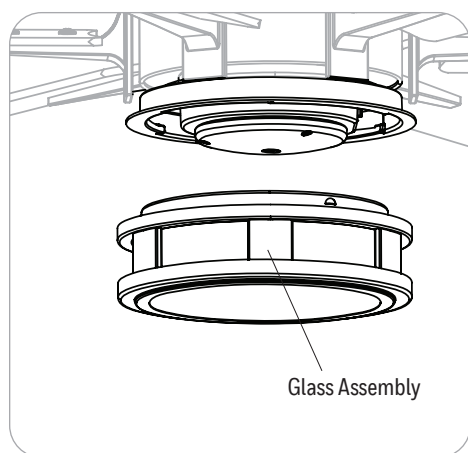

Figure 4.7
7. Lift the glass assembly into the light kit and twist in a clockwise direction to secure (Figure 4.7). Note: Remove the rubber shipping blocks from the glass assembly.